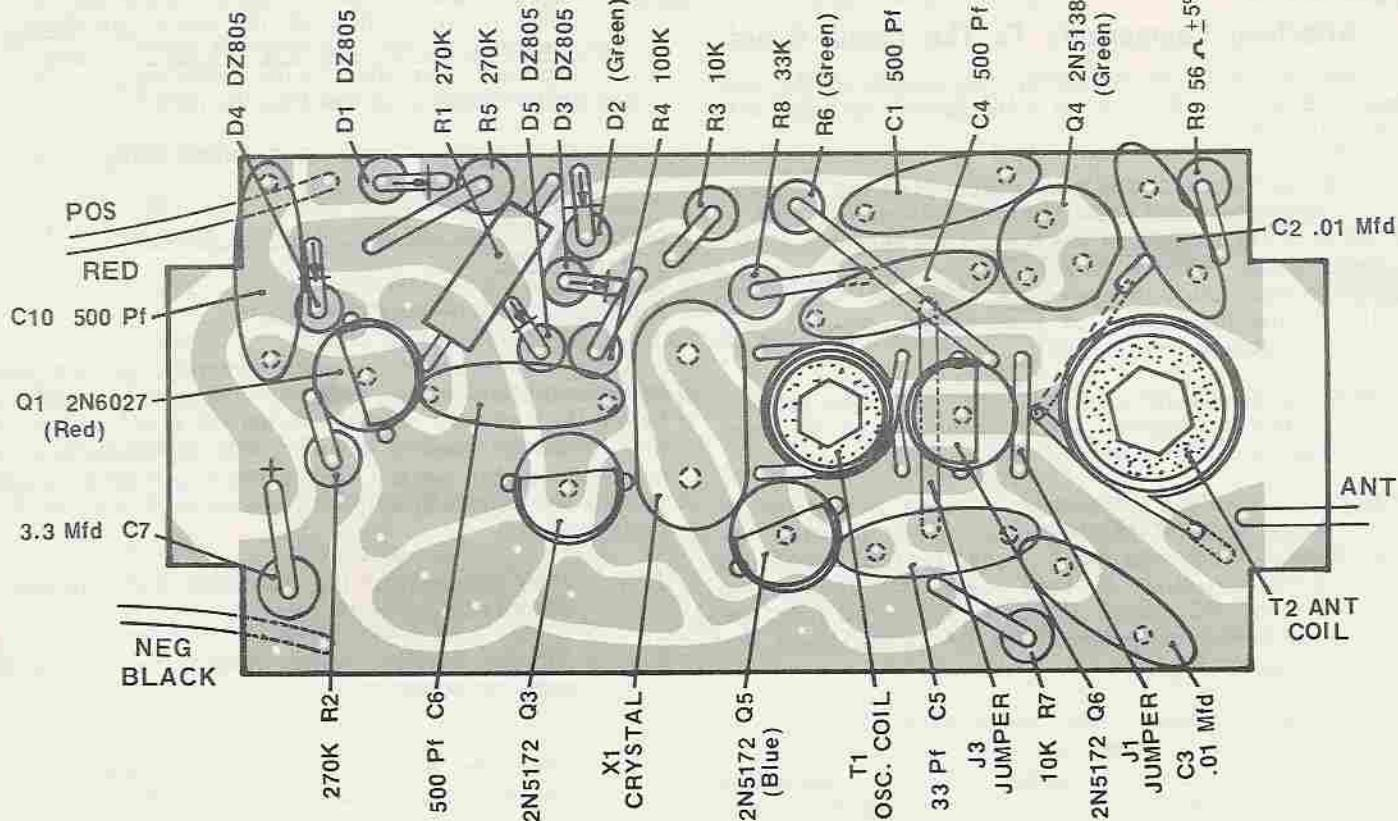

FIG. 1 PC BOARD (ROCKET-FINDER MODE), COMPONENT SIDE
Refer to Figures 1 and 2 as you complete the following steps. Note that each identifier line in Figure 1 ends at a dot which is located on the body of the respective component. Place a check mark in the () provided as you complete each step. In each case, when the instruction calls for the installation of a component, several additional instructions are implied:
- (a) The component must be installed in the position shown in Figures 1 and 2 on the side of the board opposite the copper foil lands.
- (c) The component must be oriented as shown in Figure 1. In cases where the illustration is insufficient to identify polarity, etc., the instruction will include the additional information. Be careful to insert transistors with the flat surface oriented as shown in Figures 1 and 2.
2. () Install D5 (a DZ805 diode). Orient as shown in Figures 1 and 2 with the banded (cathode) end toward the PC board.
4. () Install D3 (a DZ805 diode). Orient as shown in Figures 1 and 2 with the banded (cathode) end away from the PC board. Be sure to solder both brass eyelets securely to the copper lands. Solder the top lead of R4 and the top lead of D3 simultaneously.
5. () Install D2 (a DZ805 diode with green marking on the (anode lead). Orient as shown in Figures 1 and 2 with the banded (cathode) end toward the PC board. Leave the top lead unsoldered until R1 has been inserted.
8. () Install D1 (a DZ805 diode). Orient as shown in Figures 1 and 2 with the banded (cathode) end away from the PC board.
9. () Install D4 (a DZ805 diode). Orient as shown in Figures 1 and 2 with the banded (cathode) end toward the PC board.
15. () Install C7 (a 3.3 mfd tantalum capacitor). This device, which resembles a miniature tin can, has a lead on each end and is marked 3.3 M. Orient as shown in Figures 1 and 2 with the positive end (marked with red or a + sign) away from the PC board. Be sure to solder both brass eyelets securely to the copper lands.
19. () Install Q4 (a 2N5138 transistor with green top). Be sure to orient the flat surface as shown in Figure 1.
32. () Connect the 30-inch piece of antenna wire to the point marked "ANT" in Figure 1. First, strip the
respectively, in Figure 1.